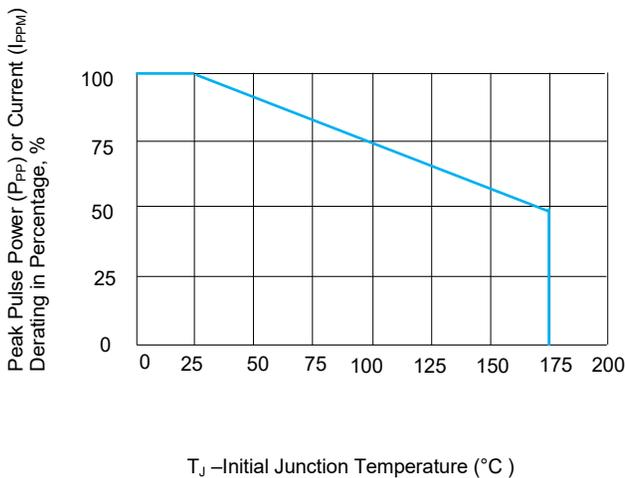
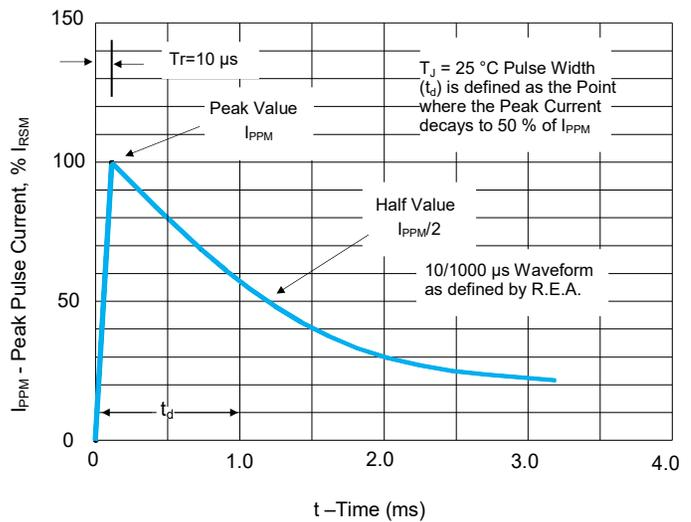

FIGURE 3 Peak Pulse Power Derating Curve
FIGURE 4 Pulse Waveform
1. Non-repetitive current pulse, per Fig. 4 and derated above $T_J(\text{initial})=25\text{ }^\circ\text{C}$ per Fig. 3.